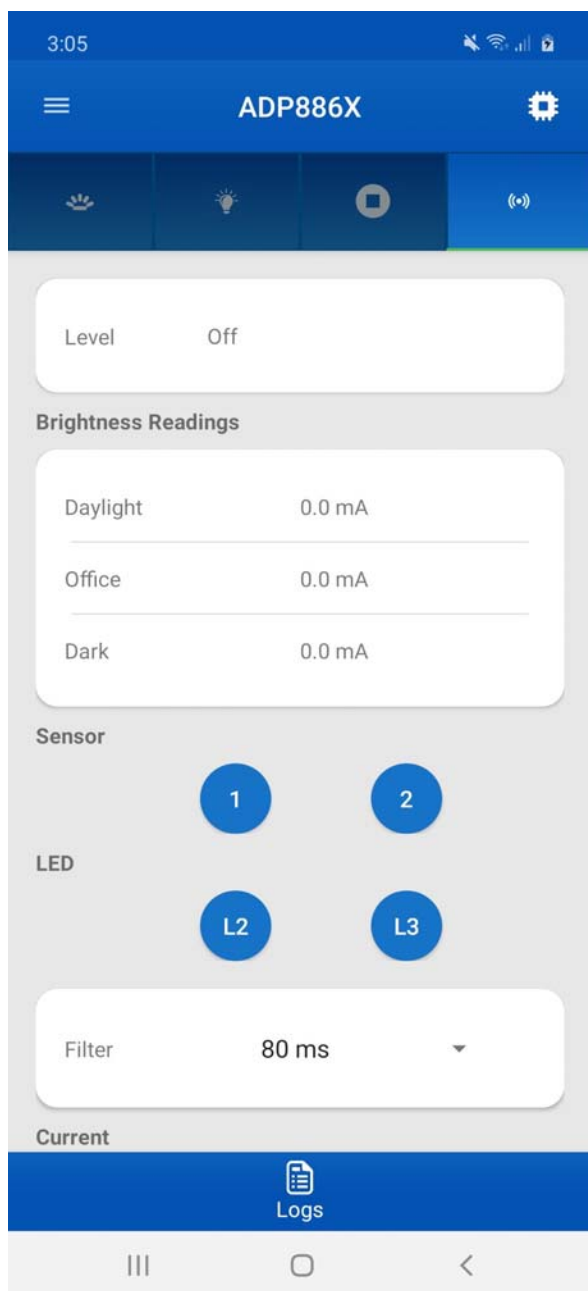
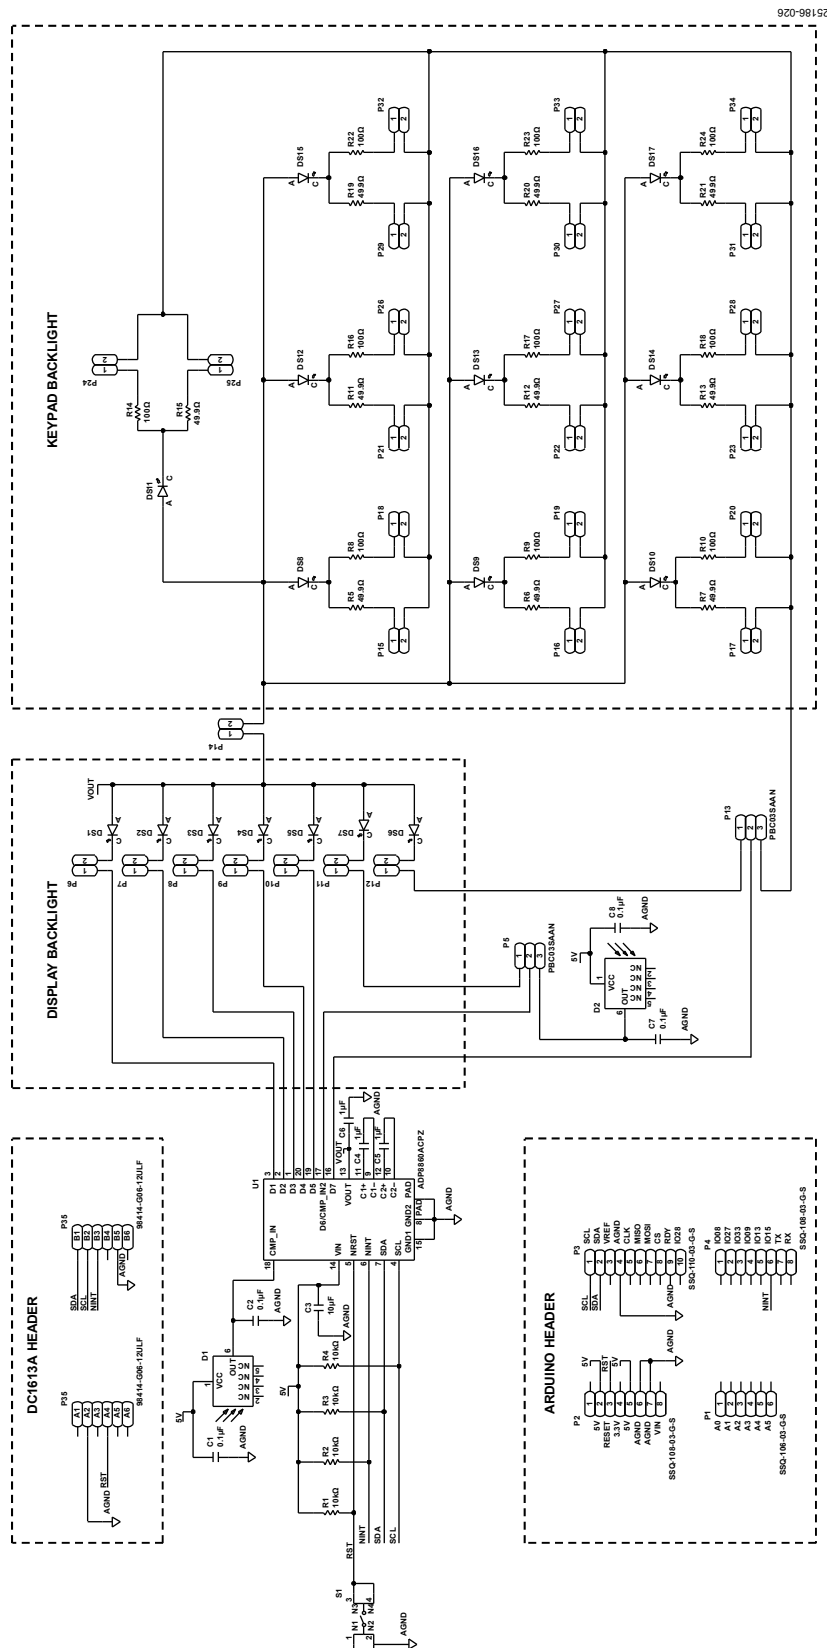
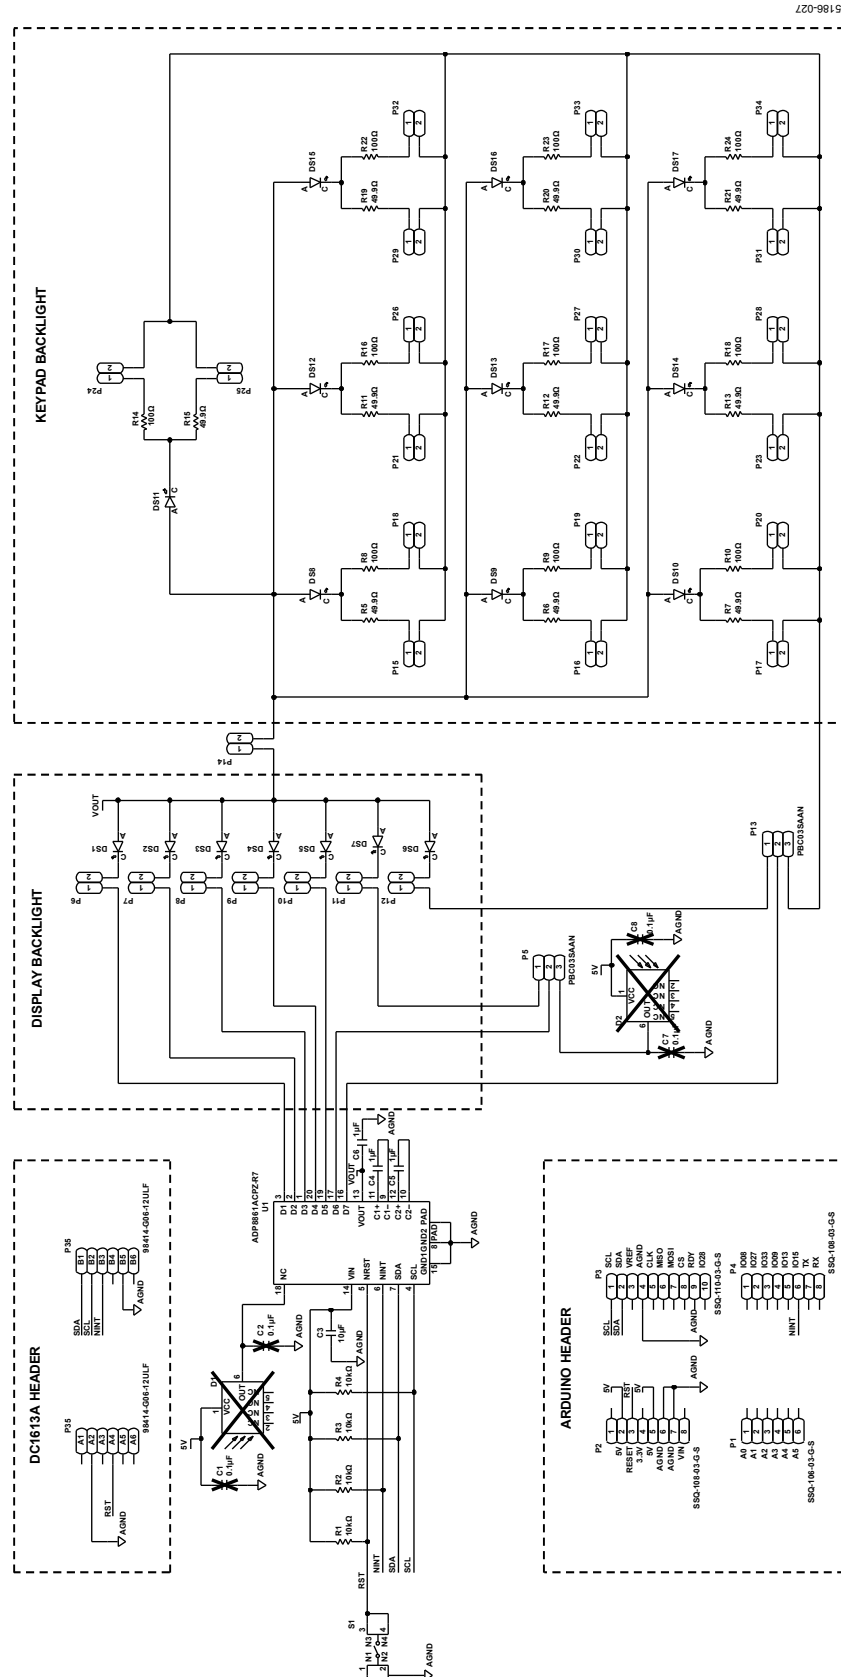

Figure 23. **A.L.S.** Tab for the Android App
Figure 25. ADP8860SHIELD-EVALZ Schematic
Figure 26. ADP8861SHIELD-EVALZ Schematic
9. In the **A.L.S.** main tab for Windows, users can enable the photosensor and comparator with a threshold and hysteresis current configuration (see Figure 14). Note that this feature is only available for the ADP8860. To utilize the secondary photo sensor, move **P5** to the other position (see Figure 25 and Figure 26).
9. In the **A.L.S.** main tab, users can enable the photosensor and comparator with a threshold and hysteresis current configuration (see Figure 23). Note that this feature is only available for the ADP8860. To utilize the secondary photo sensor, move **P5** to the other position (see Figure 25 and Figure 26).